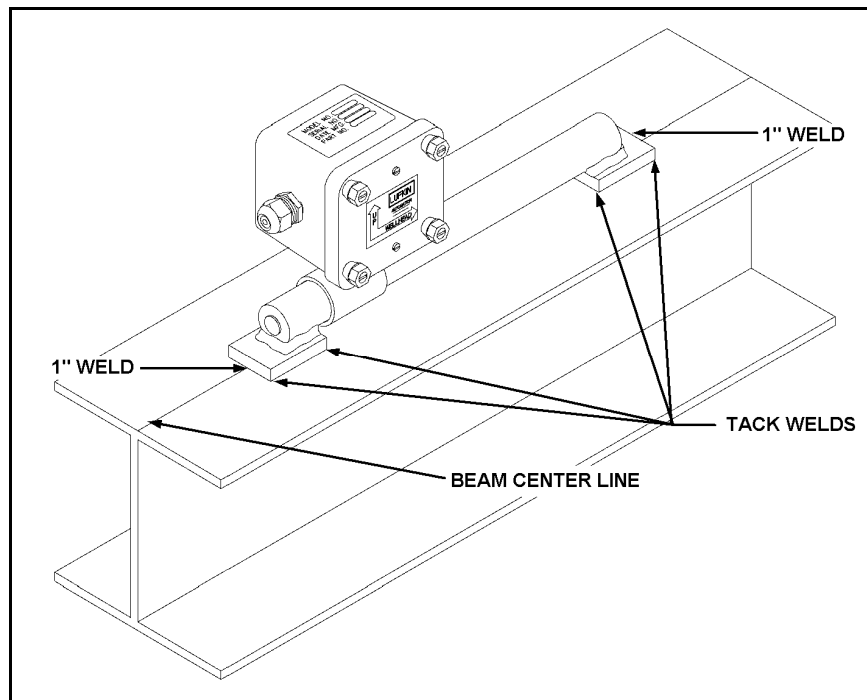

Figure 6-3. 101TL Transducer Welded on the Walking Beam
3. On the opposite end of the 101TL, make a one-inch pass across the end of the welding pad with equal penetration into the pad and the beam. Allow the weld to cool to touch. See Figure 6-3.
5. Make small tack welds at the remaining corners on the heels of the welding pads. Keep these tacks on the outside edge of the corner so that they are more accessible to a grinder if the transducer needs to be removed in the future. See Figure 6-3 for weld locations.
The 101TL Combo transducer includes both an inclinometer and the 101TL beam load transducer. Figure 6-3 (page 6-11) shows the 101TL Combo transducer mounted on a walking beam in the same manner and location as the 101TL beam transducer. The installation procedure is the same as that for the beam mounted transducer explained under the subsection, “Installing the Beam Mount Transducer,” on page 6-9.